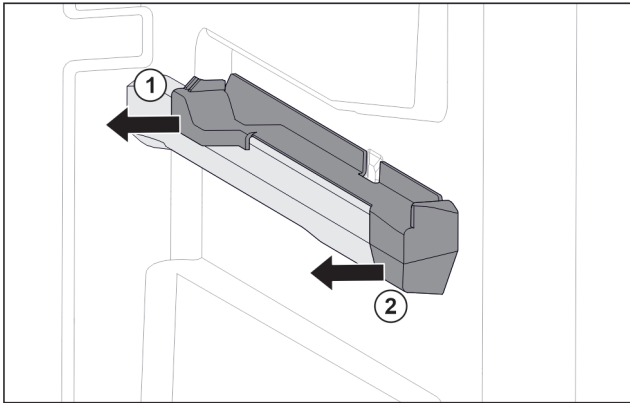

Fig. 84 Attachment on the right moulded rib
- ▶ Pull off attachment at the back sideways. Fig. 84 (1)
- ▶ Pull off attachment at the front sideways. Fig. 84 (2)